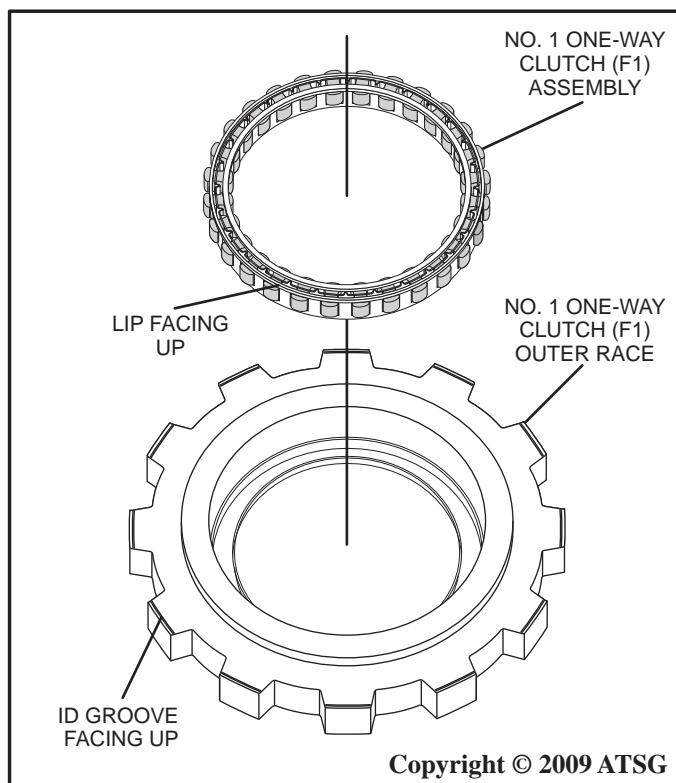

Figure 118
6. Coat the No. 1 one-way clutch (F1) assembly with a small amount of ATF, and install into the No. 1 one-way clutch (F1) outer race as shown in Figure 118.
NOTE: Make sure the LIP on the one way clutch and the ID GROOVE on the outer race are both facing the same upward direction as shown in Figure 118.